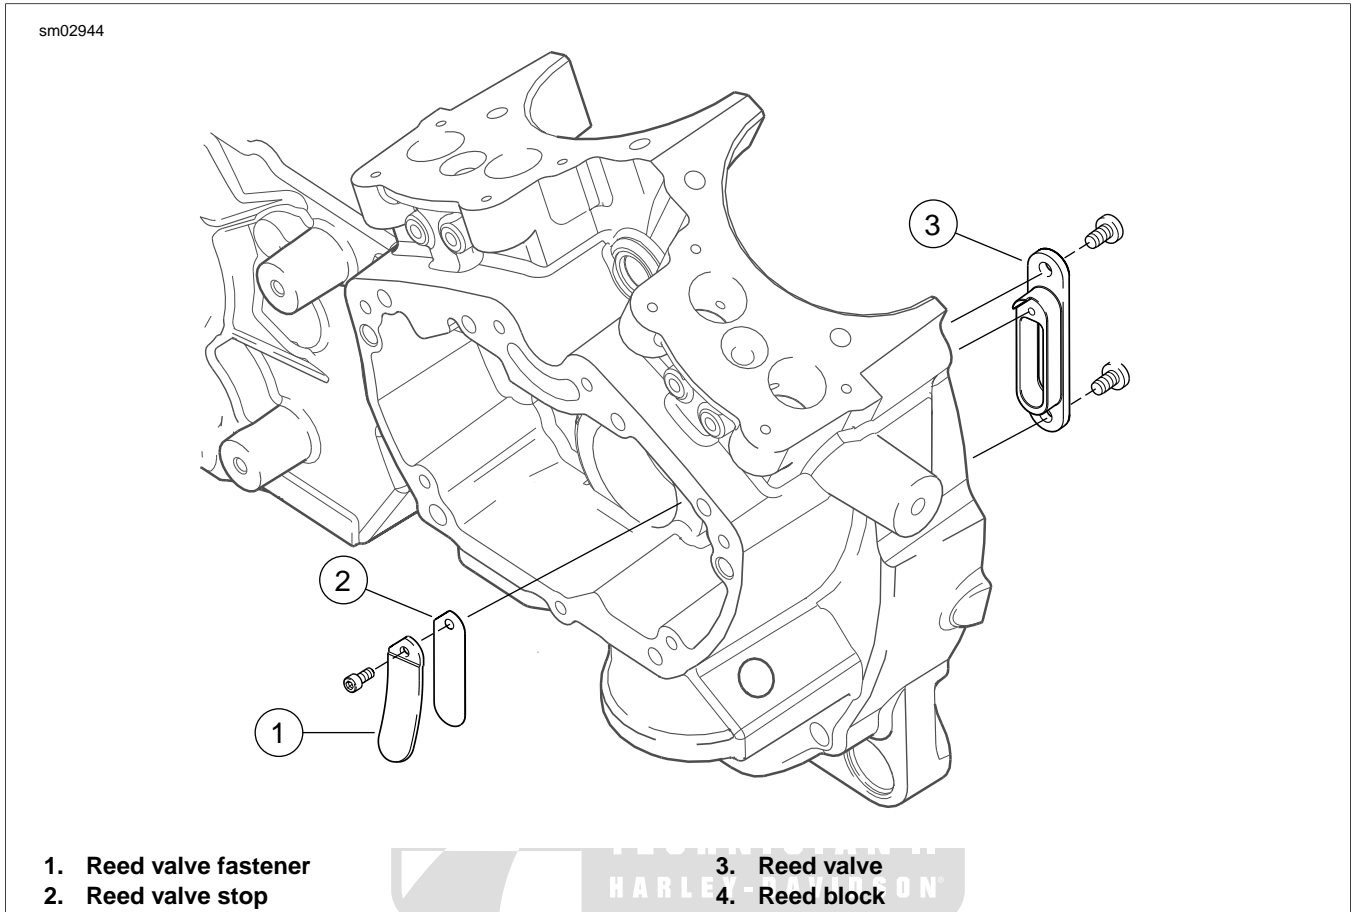

Figure 3-104. Reed Valve Assembly
- See Figure 3-104. The reed valve (3) opens on the downstroke to relieve crankcase pressure and closes on the upstroke to prevent vapors returning to the crankcase. The curved reed valve stop (2) limits the movement of the reed valve.
1. Remove the fastener (1), the reed valve stop (2) and the reed valve (3).
2. To replace the assembly, align the edges of the reed valve (3) and the reed valve stop (2) to prevent premature failure of the reed valve.